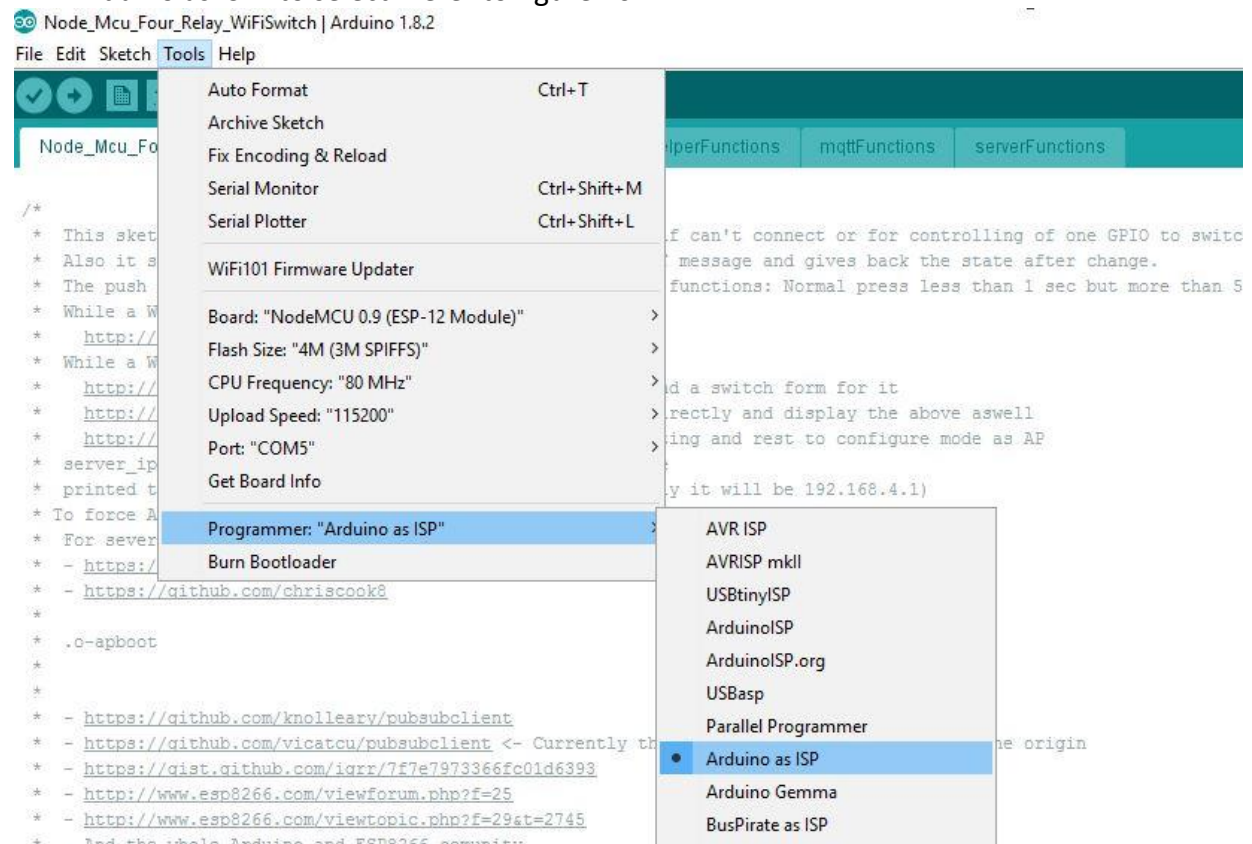

Figure 9: IDE Selection
After connecting, open browser and enter 192.168.4.1 IP address, it will open the web server as shown in the Figure 9,
5. Click on Tools Tab, move mouse pointer on "Board: xxxxxxxxxxxx" and click on "NodeMCU0.9 (ESP-12 Module)" as shown in figure 9.